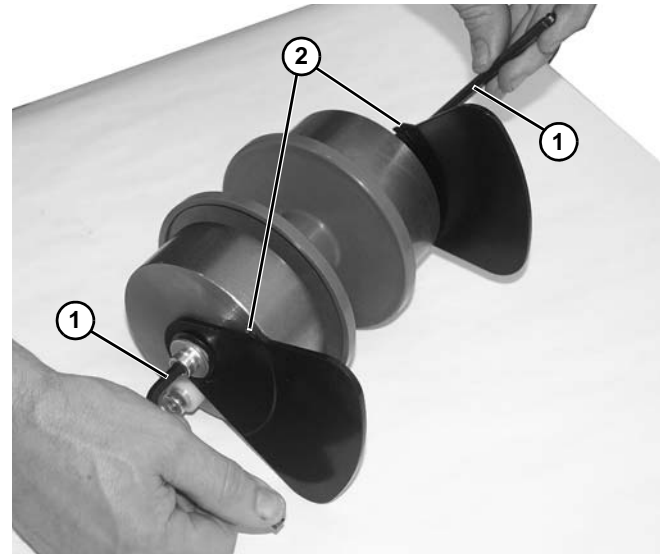

Figure 139
10. Install components reverse of removal, using two hex wrenches (Figure 139, item 1) on each side of idler assembly to tighten components.
Be certain that notches (Figure 139, item 2) on both plates are on top side, and spacers are in same orientation, as shown, before tightening components.